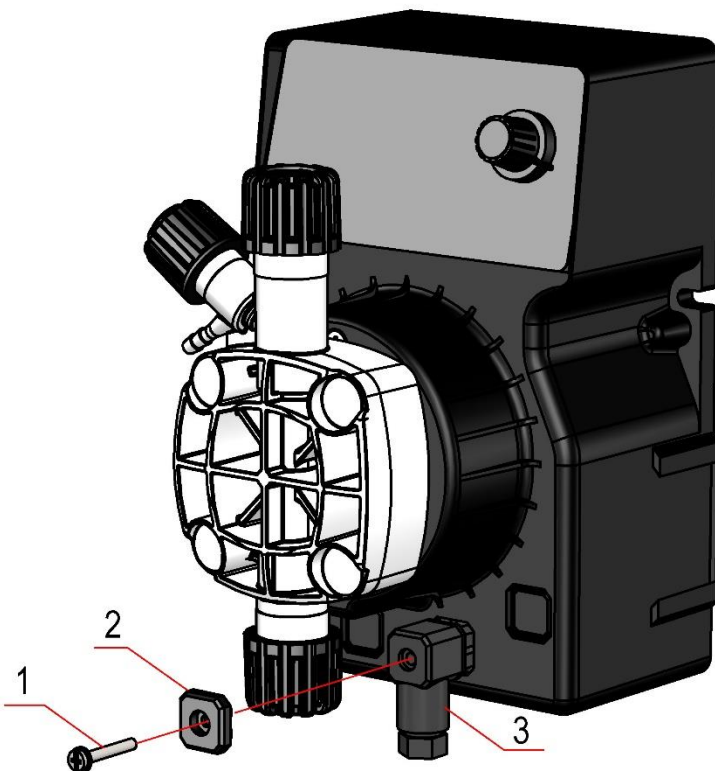
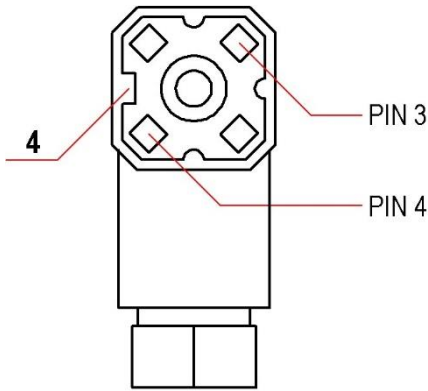

Fig. 9 - Level probe connection
Fig. 10 – Correct positioning of the level probe connector.
The metering pump contains a male connector for the input connection of a level switch (supplied on request). To connect this accessory, use a flat or Phillips-type screwdriver on the screw (1) then remove the cap (2) or the connector (3), depending on the version, pulling it in the direction of the red line, uncoupling it from the male connector located on the metering pump (Fig. 9). The connector insert (3) must be removed from its container and turned so that its key (4) is positioned as indicated (Fig. 10) for correct coupling with the corresponding male connector mounted on the chassis. To remove the connector insert (3) remove the screw (1) and using a flathead screwdriver act on the two tabs on the seat where the screw (1) was located and remove the part. Connect the 2 wires of the level probe one to PIN 3 and the other to PIN 4, indistinctly, then reassemble the connector (3). Insert the connector (3) on the corresponding male connector on the chassis and tighten the screw (1).